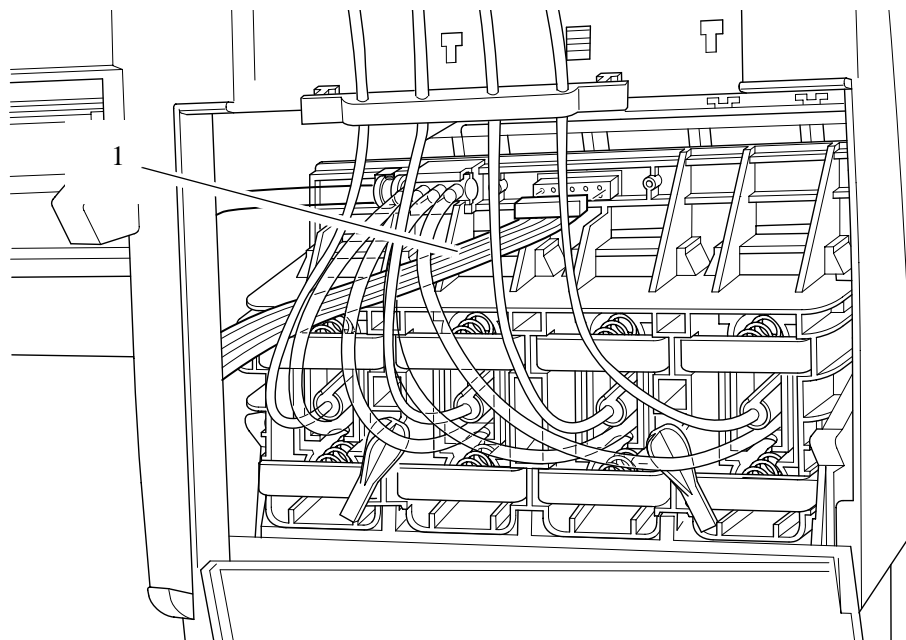

Figure 67: Ink Cartridge Tube Connector Cable
- 11.** Disconnect the ink cartridge tube connector cable (item 1) (refer to Figure 67).